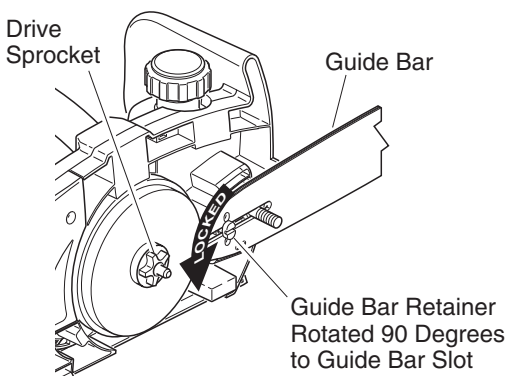

Figure 3 - Locking Guide Bar Retainer
3. Rotate guide bar retainer 90 degrees as shown in Figure 3.